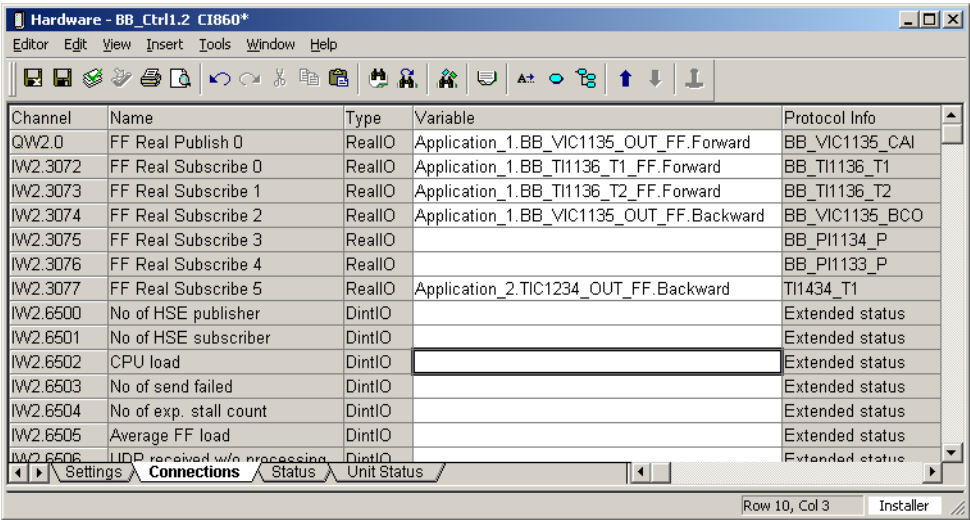

Figure 185. Hardware Editor of the CI860 Object
- 8. Open the hardware editor via the context menu by means of **Editor** (see Figure 185).